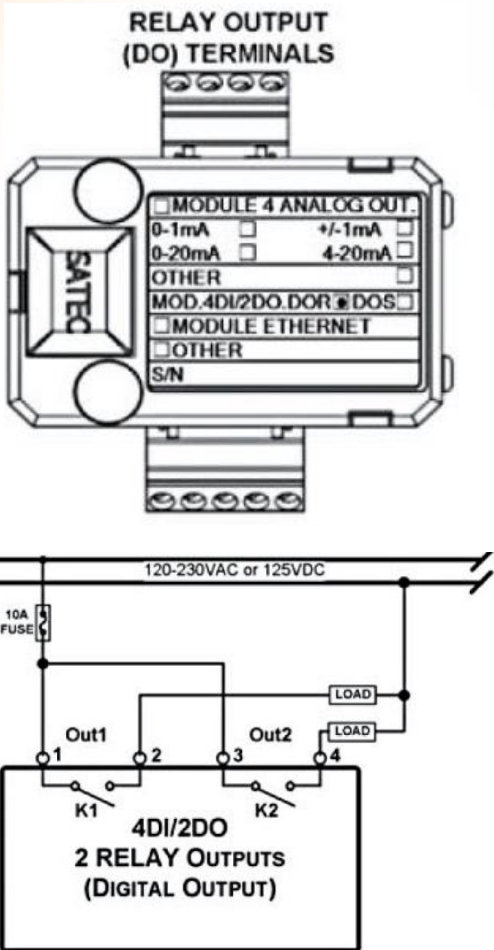

Figure 1: Relay control outputs for 4DI+2RO module
2. Make connections to the I/O module as shown in figure 1